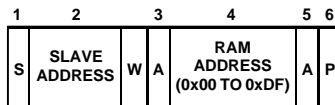

Figure 28. Setting a RAM Address for Subsequent Read
1. To write a register address to RAM for a subsequent single byte read from the same address or block read, or to write starting at that address. This is illustrated in Figure 28.